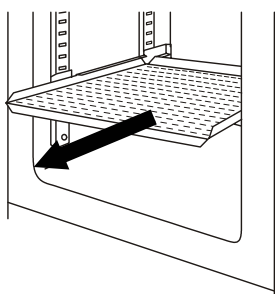

Fig. 1
3. Pull out the all trays. See Fig. 1